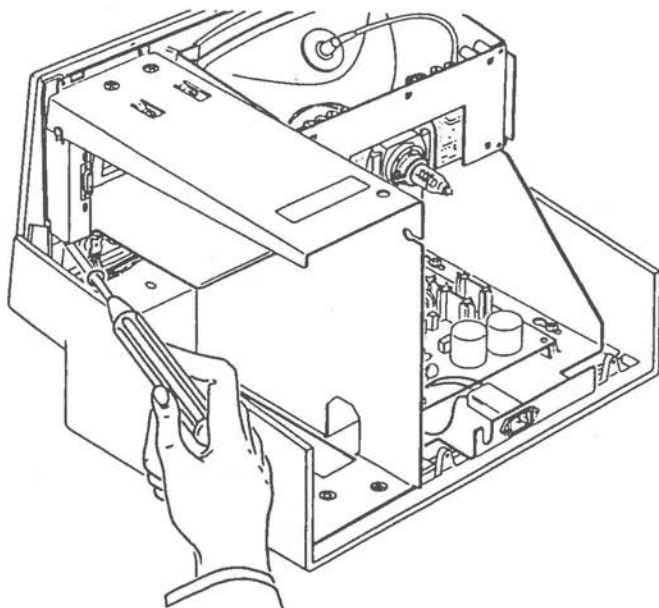

Figure 6-8 CRT Control Removal
2. Using a small screwdriver push the control knob off the spindle as shown in Figure 6-8.